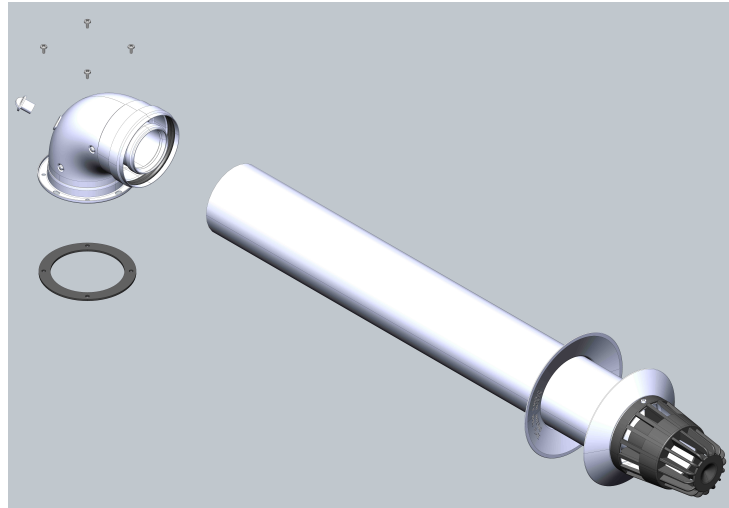

Figure 7– Horizontal Flue Kit
- Horizontal air/flue kit accessories (fig.7) :